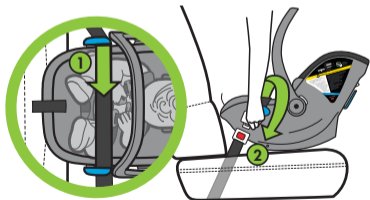

Figure 68
- Route the lap belt through both blue LATCH/Lap Belt Guides (1) and buckle vehicle belt (2), as shown in **Figure 68**.